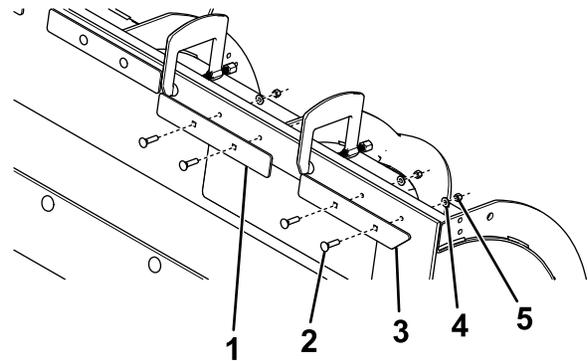

Figure 2
Note: If your plow does not have holes to use as a guide, use Figure 2 as a guide for where to drill.
- Secure the 45° straps to the outer holes using 4 carriage bolts (5/16 inch), 4 washers (5/16 inch), and 4 nylon locknuts (5/16 inch) as shown in Figure 2.
- Secure the square straps to the remaining holes (Figure 2) using the hardware listed for your plow below: